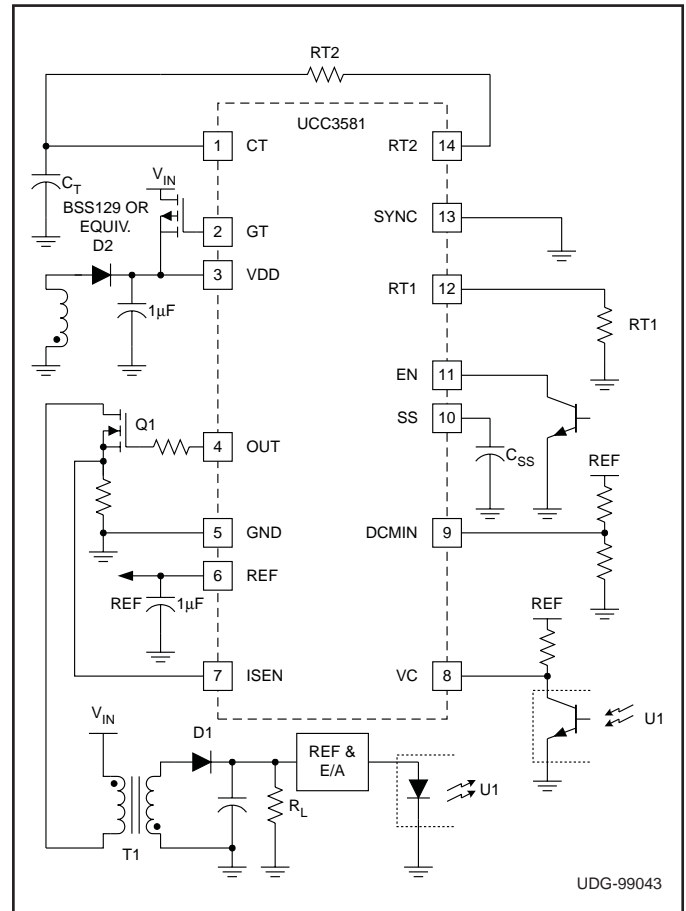

Figure 1. Application diagram.
See Application Diagram Fig. 1.
**RT2:** Resistor pin to program oscillator discharge time. The minimum value of RT2 is 10kΩ. See Application Diagram Fig. 1.
The UCC3581's oscillator allows the user the flexibility to program the frequency and the duty cycle by adjusting two resistors and a capacitor. Application Diagram Fig. 1 shows these components as RT1, RT2, and CT. RT1 programs the timing capacitor charging current which results in a linear ramp charging CT. Discharge of CT is accomplished through RT2 which results in a standard RC discharge waveform. The oscillator on-time (CT charging) is calculated by the formula